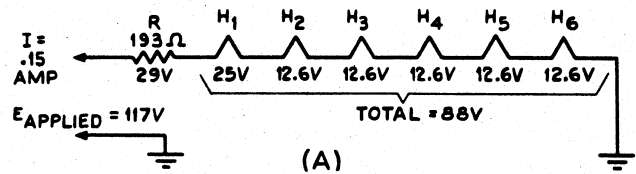

Fig. 1-9(A). A series chain of heaters each drawing 0.15 ampere in a circuit with a single voltage-dropping resistor.
Suppose the requirement is for the use of higher current heaters in place of lower current heaters in a series circuit. A single 0.3-ampere heater is to replace one rated at 0.15 ampere in a series string of five 12.6-volt, 0.15-ampere heaters and one 25-volt, 0.15-ampere heater. This substitution is to occur at  $H_6$  in Fig. 1-9(A). Several solutions are shown in Figs. 1-9(B) through (G). The choice is determined by which is most convenient and best fits the need. The one fundamental requirement created by such a substitution is that the total line current must be increased to 0.3 ampere so as to serve the increased current demand of the substitute tube. Whether this means that the line current will be limited to 0.3 ampere or increased above that value is determined by the organization of the heaters which form the load. One circuit system [Fig. 1-9(B) and (C)] needs 0.45-ampere line current, whereas other arrangements can be served by 0.3 ampere; there is no way, however, of satisfying the requirements of the 0.3-ampere tube with a line current of 0.15 ampere. For comparison, let us keep the constants of the original circuit [Fig. 1-9(A)] in mind. Here we have a total drop of 88 volts across the heaters, and 29 volts across the line dropping resistor at a current flow of 0.15 ampere.
One solution for the substitution is the use of two series paths, one for the 0.15-ampere heaters and the other serving the 0.3-ampere heater, as shown in Fig. 1-9(B). In order not to change the total voltage drop in the 0.15-ampere chain, a resistance (84 ohms) corresponding to that of the heater ( $H_6$ ) which has been removed is inserted in its stead. This establishes the total voltage drop at the original value of 88 volts and
Fig. 1-9(B).  $H_6$  of Fig. 1-9(A) has been replaced by a 12.6-volt, 0.3-ampere one requiring a separate series circuit and an increase in the current drawn from the line source. Now there are two dropping resistors, one in each branch of the circuit.
Fig. 1-9(C). Same as Fig. 1-9(B) except that the dropping resistor in the longer branch now is a combination of the dropping resistor  $R$  and the compensating resistor  $R_1$  of the previous diagram.
the original line dropping resistor remains intact. Compare Figs. 1-9(A) and (B). Since the drop across the 0.3-ampere heater is 12.6 volts and the line voltage is 117 volts, a line dropping resistor must be added to this circuit.  $R_2$  serves this purpose; its ohmic value (348 ohms) is such that it will drop 104.4 volts at 0.3 ampere.
Examination of the two series circuits of Fig. 1-9(B) shows that they are actually in parallel since each goes from the 117-volt line to ground. This is illustrated in the equivalent diagram in Fig. 1-9(B). The total resistance of each of the parallel branches is such that 0.15 ampere flows in one, whereas 0.3 ampere flows in the other.
The equivalent circuit in Fig. 1-9(B) is an important one to understand because it shows the application of two series circuits connected in parallel. Television receivers intended for use on a-c—d-c lines employ such circuit arrangements quite frequently, see Fig. 1-8 and the schematics at the end of Section 3.
A modification of Fig. 1-9(B) appears in (C). The substitution requirement remains the same, but this time the resistance equivalent of the heater which has been removed is not inserted. Instead, the line dropping resistor is changed in value so as to compensate for the reduced total voltage drop across the heaters. With one 12.6-volt heater removed, it has fallen to 75.4 volts from the original 88 volts. This necessitates an increase in the line resistor  $R$  from the original value of 193 ohms to 277 ohms. (This follows from the fact that the heater removed from the string had a resistance of 84 ohms, and in order to maintain the original amount of current in the circuit, this amount of resistance must be added to the line dropping resistor. The change is essentially the transposition of the resistor  $R_i$  in Fig. 1-9(B) from its position at the grounded end of the string to the line dropping resistor.) Now the drop across the line dropping resistor is 41.6 volts, or the original 29.6 volts plus the 12.6 volts representing the displaced heater. The second series leg of the circuit is the same as shown in Fig. 1-9(B), because its demands have not been changed in any way by the modifications applied to the other series circuit.
Several other interesting details may be mentioned about the arrangements in Figs. 1-9(B) and (C). In the latter, the increase in the value of the line dropping resistor means an increase in power dissipation. The power dissipation in the resistor in (B) is 4.34 watts; the power dissipation in the resistor in (C) is 6.23 watts. However, it is necessary to add to the former the amount dissipated in the resistor  $R_1$  which has replaced the heater. This power is 1.89 watts, which when added to the 4.34 watts, totals the same amount as is dissipated in the higher value of resistance used in Fig. 1-9(C). At first glance there may appear to be no difference between the two systems, yet there is a substantial difference. It is simply that two resistors, one of 4.34 watts and another of 1.89 watts rating (or whatever may be the wattage ratings selected to afford ample safety factor), are definitely more expensive than a single resistor of such wattage rating as will satisfy a power dissipation of 6.23 watts.
For purposes of comparison let us identify the power dissipation in the system shown in Fig. 1-9(C). The power dissipation in the 150-ma leg is 11.34 watts in the heaters and 6.18 watts in the line dropping resistor  $R$ , a total of 17.49 watts. The power dissipated in the 300-ma circuit is 3.78 watts in the heater and 31.32 watts in the line dropping resistor  $R_1$ , making a branch total of 35.10 watts. The dissipation in both circuits is the sum of the branch wattages or 52.59 watts.
A third possible arrangement for the substitution is shown in Fig. 1-9(D). In a way, this is a more practical way to connect a 12.6-volt, 0.3-ampere heater in place of a 0.15-ampere heater of like voltage rating. Only one series string is arranged, although it contains two parallel circuits. This system operates in a similar manner to that shown in Fig. 1-8. Of course, the ability to assemble such a circuit depends upon the number of heater elements present. The four heaters  $H_2, H_3, H_4,$  and  $H_5$  are of like constants, therefore, two series pairs connected in parallel result in a system requiring 25.2 volts and 0.3 ampere. In order that heater  $H_1$  draw only 150 ma, it is shunted with a resistance equal to its own resistance. Thus, the original six tubes now are arranged so that they can be assembled into a single series string and supplied with 0.3 ampere of current.
Fig. 1-9(D), (E), and (F). Various methods are shown here for shunting the heaters of the circuit shown in Fig. 1-9(A), after the substitution of a 12.6-volt 0.3-ampere heater for  $H_6$ , so that the voltage and current requirements of each heater are satisfied.
Fig. 1-9 (G). Part of a television receiver filament circuit showing the isolating chokes used between the heaters in the series chain. The shunts shown in dotted lines are unacceptable because they nullify the action of the chokes.
heaters dissipate 1.89 watts each for a total of 7.56 watts; the 25-volt heater  $H_1$  with its shunt consumes 7.5 watts; the 12.6-volt 300-ma heater  $H_6$  consumes 3.78 watts; and the line dropping resistor consumes 16.26 watts. The total power dissipation of the whole circuit is, therefore, 35.1 watts. A comparison between the total power consumption of the circuit in Fig. 1-9(D) and that in Fig. 1-9(C) illustrates the economy in power consumption possible by a choice of circuits.
A modification of the circuit in Fig. 1-9(D), designed to allow the replacement of a 150-ma heater tube with a 300-ma one, is shown in Fig. 1-9(E). Here, all the heaters are in a single chain with a current shunt across each 150-ma tube; the 300-ma heater  $H_6$  does not require a shunt. The ohmic value of these shunts is equal to the resistance of each of the shunted heaters. The power consumption of the entire system totals 36 watts made up as follows: each of the shunted 12.6-volt heaters with its shunt consumes 3.8 watts, the unshunted 0.3-ampere tube requires approximately the same amount of power, the 25-volt shunted heater with its shunt consumes 7.5 watts, and the line dropping resistor consumes 8.7 watts, a total of 35.2 watts. This is slightly more than the consumption of the circuit of Fig. 1-9(D), but it is much less than that required by circuit 1-9(C). As to the relative ease of installation of circuits 1-9(D) or (E), it is a matter of specific circumstances, there being little to choose in terms of power saving.
The reduction of the line voltage-dropping resistor  $R$ , in Fig. 1-9(E) is significant. It means a smaller unit and one with lower power dissipation rating, making it more convenient to install than larger units.
A simplification of the shunted heaters is shown in Fig. 1-9(F). Instead of individual current shunts, a single shunt  $R_1$  of suitable value (equal to the combined resistance of the shunted heaters) is connected across the 150-ma heaters,  $H_1$  to  $H_5$ . As indicated in the diagram, this resistance amounts to 502 ohms, which is the aggregate of four heaters of 84 ohms each, and one heater of 166 ohms. The 300-ma heater  $H_6$  requires no shunt, therefore, it is not included by the common shunt  $R_1$ .
receivers to isolate one heater from the other by means of isolating chokes [see Fig. 1-9(G)]. These are part of the filament circuit, but their d-c resistance is extremely low. Any attempt to shunt current around these heaters must exclude the choke from the shunted circuit otherwise the effectiveness of the choke will be materially reduced, if not completely nullified. This means that the current shunts shown in dotted lines in Fig. 1-9(G) are undesirable, instead, each tube should be shunted separately and care must be exercised to see that the shunt is connected directly across the terminals of the related heater and does not include the associated choke.
Having described the parallel and the series systems separately, the organization of the series-parallel system should pose no problem. It is doubtful that the occasion will arise which requires the design of a complete new heater system, usually, the substitution involves one or two tubes at the most and these can be treated as illustrated in Figs. 1-9(B) through (G). An example of a series-parallel combination somewhat more complex than the usual is illustrated in Fig. 1-10. To simplify the treatment of this circuit, we will divide the heaters into two strings, and examine each separately.